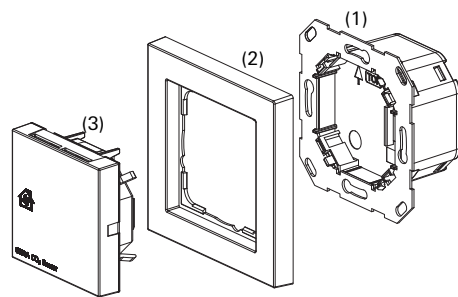

Fig. 1: Device components
Arrows and 'TOP' point upwards, see figure 1, flush-mounted insert (1).